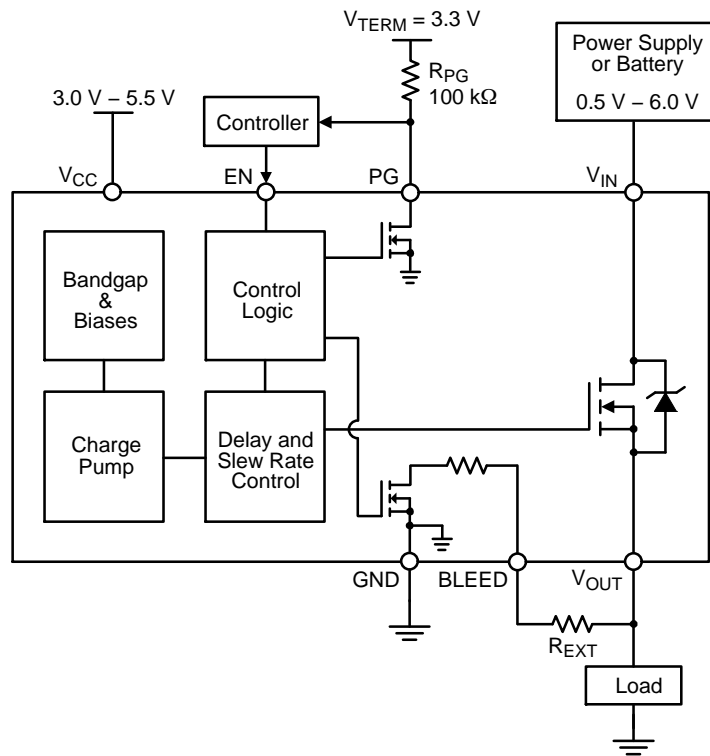
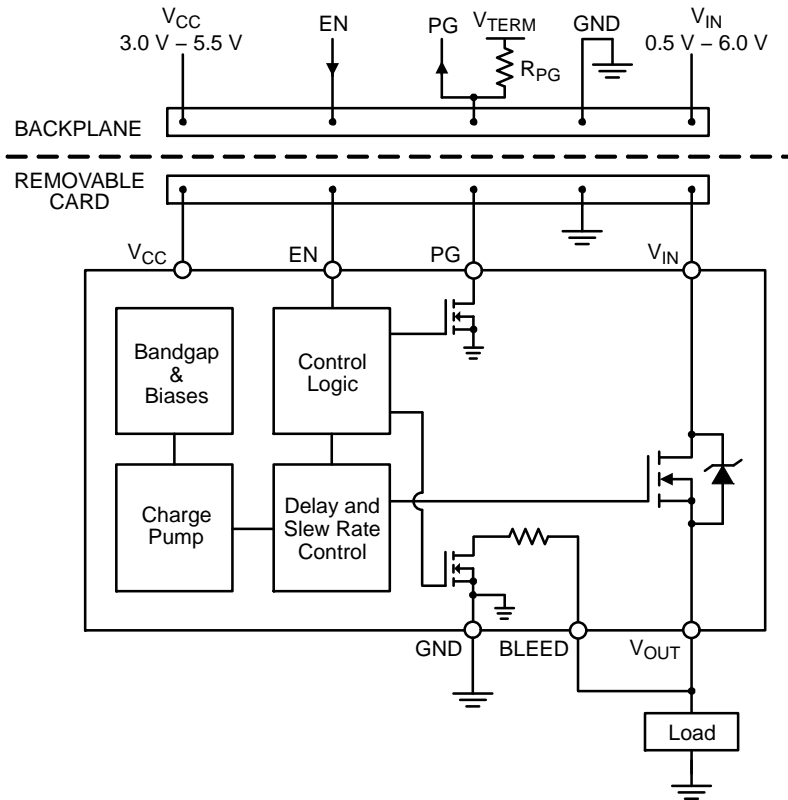

Figure 3. NCP45526 Typical Application Diagram – Load Switch
Figure 4. NCP45526 Typical Application Diagram – Hot Swap
Is it required that the BLEED pin be connected to V_{OUT} either directly (as shown in Figure 4) or through an external resistor, R_{EXT} (as shown in Figure 3). R_{EXT} should not exceed 100 M Ω and can be used to increase the total bleed resistance and decrease the load bleed rate.
The NCP45526 devices have a power good output (PG) that can be used to indicate when the gate of the MOSFET is fully charged. The PG pin is an active-high, open-drain output that requires an external pull up resistor, R_{PG} , greater than or equal to 1 k Ω to an external voltage source, V_{TERM} , that is compatible with input levels of all devices connected to this pin (as shown in Figures 3 and 4).